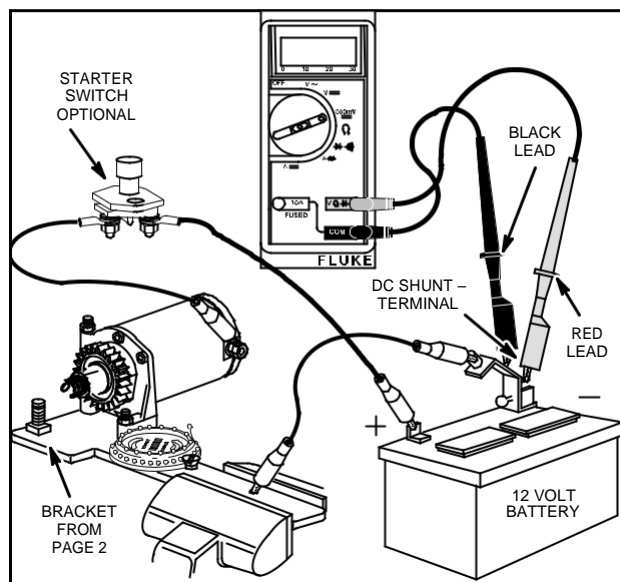

Fig. 667 – TESTING 12 VOLT STARTER MOTOR WITH DIGITAL MULTIMETER
2. Connect the starter motor, battery and meter as shown in Fig. 667.